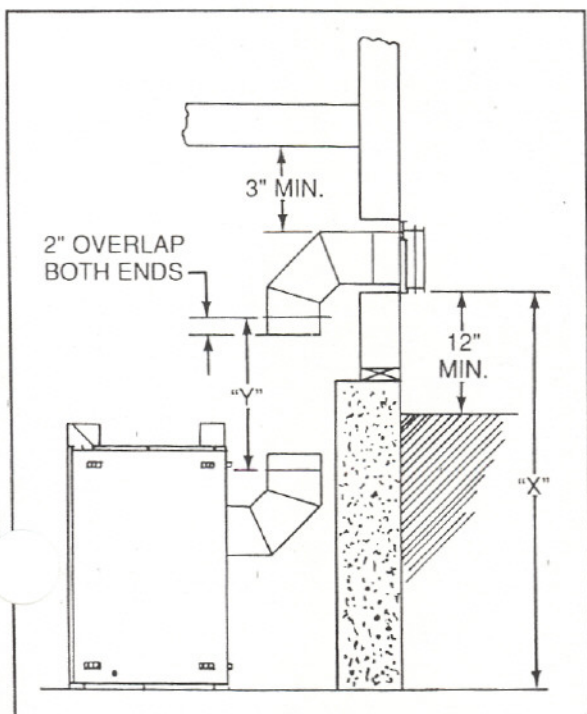

Figure 9
Attach the lower set of elbows, using (3) screws per attachment. The elbow must be positioned in a vertical position only. Next, determine the length of the vertical pipe section using Figure 9 and Table 3, and attach to the lower elbow using (3) screws. Secure the top two elbows to the vertical pipe section, either at a 45° angle or straight out, depending on the installation.